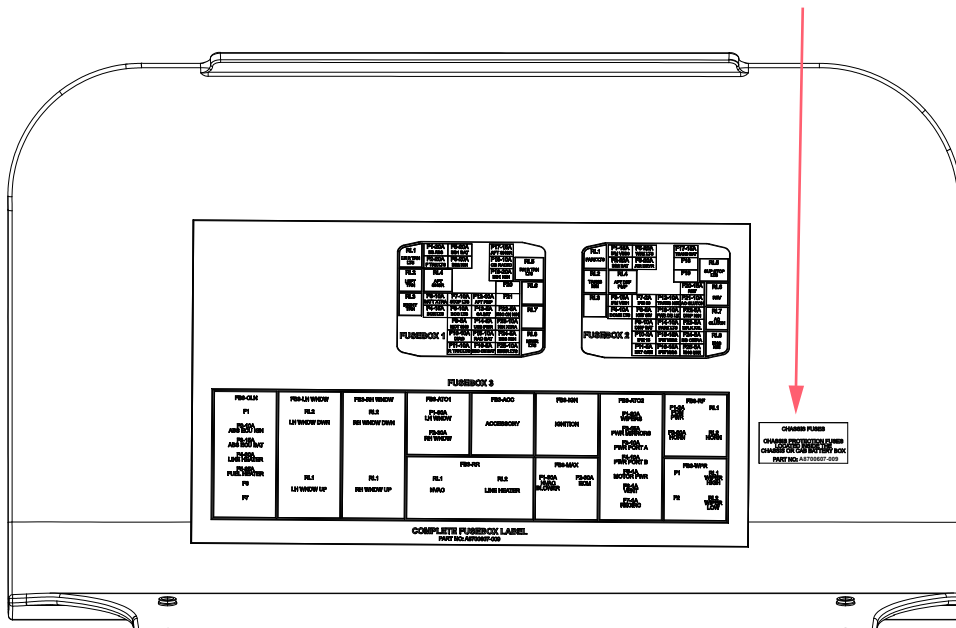

Figure 12
21. Enter the cab and locate the fusebox cover. Install the A8700623-001 Decal under the fusebox cover (see *Figure 12*).